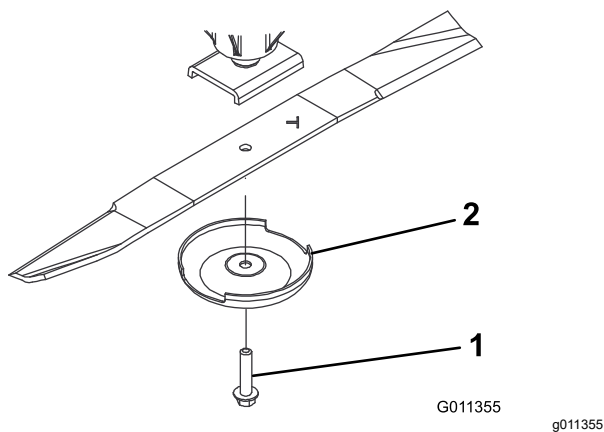

Figure 74
3. Remove the blade bolt, anti-scalp cup, and blade from the spindle shaft (Figure 74).